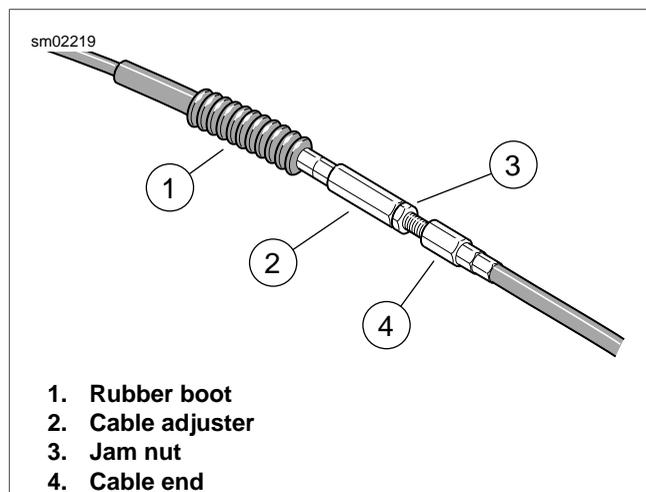

Figure 1-15. Clutch Cable Adjuster
4. See Figure 1-15. Add freeplay to cable.